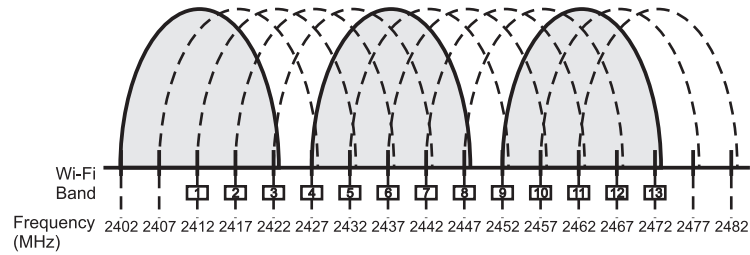

Fig. 28
- (A) Position the receiver at least 5-meter away from WiFi, Bluetooth or other 2.4 GHz transmitting devices.
- (B) Line-of-sight between the transmitter and receiver provides the ideal reception range.
- (C) Power supply voltage should not be less than 9V and not higher than 12V. Ensure at least DC 300mA. Deficient supply voltage causes instable operating or malfunction and exceeding supply voltage causes shorter the product life cycle and possible short or damaging circuits.
- (D) User can scan environment for WiFi devices with smartphone app, normally WiFi channel selections are 1, 6, 11.
- (1) When there is WiFi channel selection 1, receiver channels can be set at 01 and 10 for non-interfering channels. Or select a lesser interference channels like 02, 03, 04, 05, 06, 07, 08, 09.
- (2) When there is WiFi channel selection 6, receiver channels can be set at 01 and 11 for non-interfering channels. Or select a lesser interference channels like 02, 03, 04, 05, 06, 07.
- (3) When there is WiFi channel selection 11, receiver channels can be set at 01 and 12 for non-interfering channels. Or select a lesser interference channels like 02, 03, 04, 05, 06, 07, 08, 09.
(H) Wi-Fi Channel Distribution, Fig. 28: